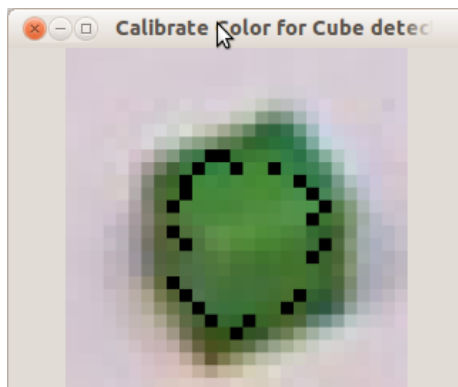

Figure 2: Contour around the cube's pixels
- In the zoomed window draw a rough **contour** of the object by dragging the mouse cursor over the cube with left mouse button pressed. Refer to Figure 2 for an example of a zoomed cube image with a rough contour around it. Notice that the contour is very rough and even discontinuous, but that is not an issue for the calibration tool. But try not to capture pixels outside the cube. When the contour is roughly closed, release the mouse button and press *Enter*